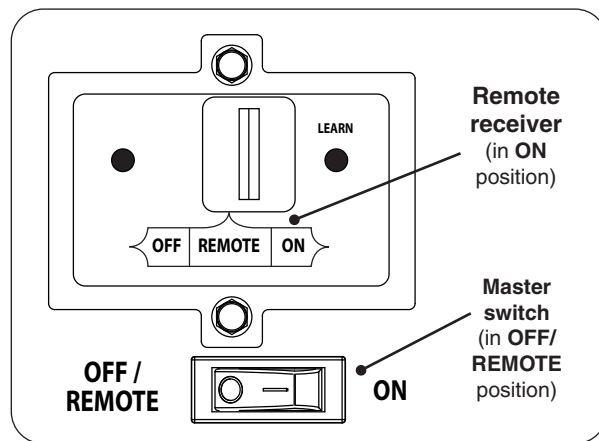

Fig. 35-1 Control panel detail
1. Ensure the master switch is in the **OFF/REMOTE** position (see Fig. 35-1).
3. Locate the 3-position switch on the remote receiver (see Fig. 35-1), and slide the switch to the **ON** position.
The master switch should remain in the **OFF/REMOTE** position to allow for remote system operation (see Fig. 35-1).